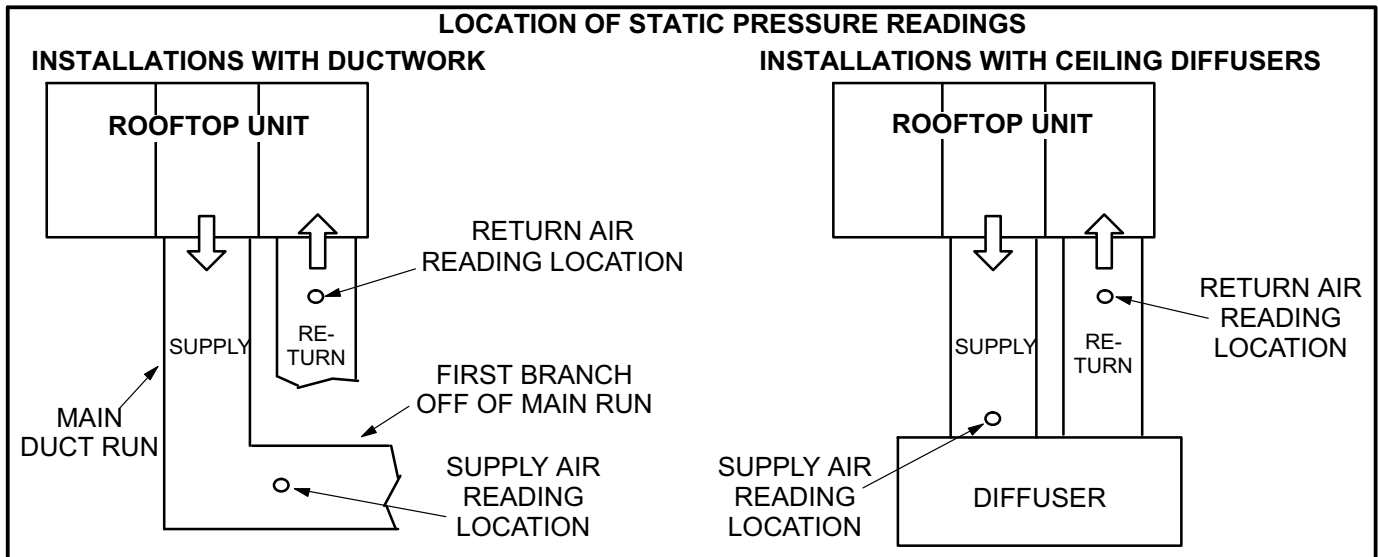

FIGURE 22
- 2- With all access panels in place, measure static pressure external to unit (from supply to return). Blower performance data is based on static pressure readings taken in locations shown in figure 22.